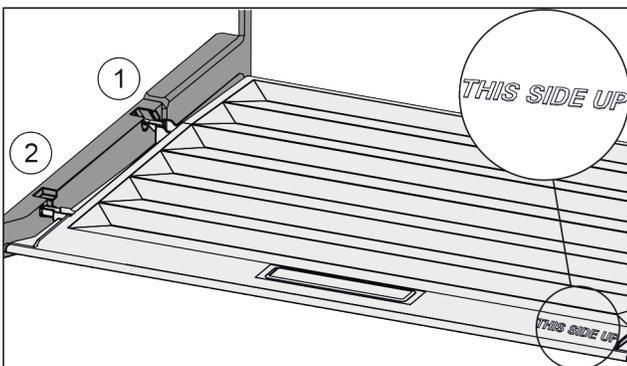

Fig. 35
- ▶ Insert the lip of the cover over the opening of the rear bracket Fig. 35 (1) and click into place Fig. 35 (2).